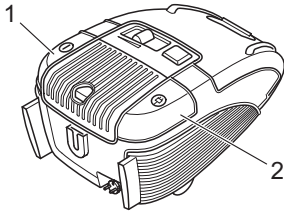

Fig.15
1. Switch off the cylinder vacuum cleaner using the on/off switch (Fig. 15/1) and pull the plug out of the socket.
3. Press the cable retract button (Fig. 15/2) to pull in the power cable.